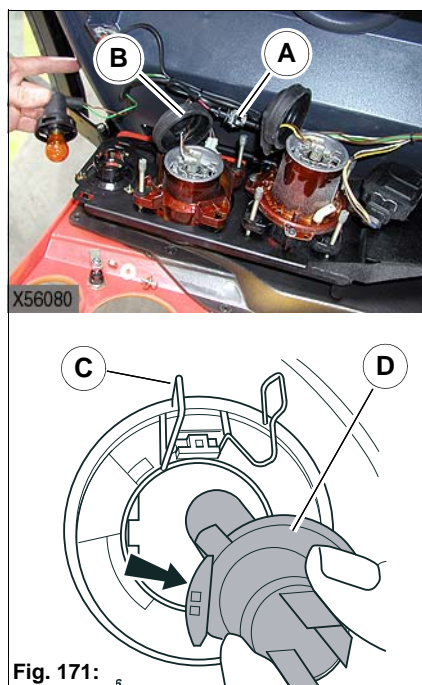

Fig. 171:
1. Remove the cable plug **Fig. 171-A**.
2. Remove the sealing cap **Fig. 171-B**.
3. Squeeze the tension spring **Fig. 171-C** together with your fingers and remove the light bulb **Fig. 171-D**.
4. Hold the new light bulb **Fig. 171-D** at the lamp socket, do not touch the glass bulb, and insert it in the headlight.
5. Pay attention to the locking device that ensures correct positioning of the light bulb **Fig. 171-D** in the headlight (see figure).
6. Install the tension spring **Fig. 171-C**, the sealing cap **Fig. 171-B** and the cable plug **Fig. 171-A** in reverse order.